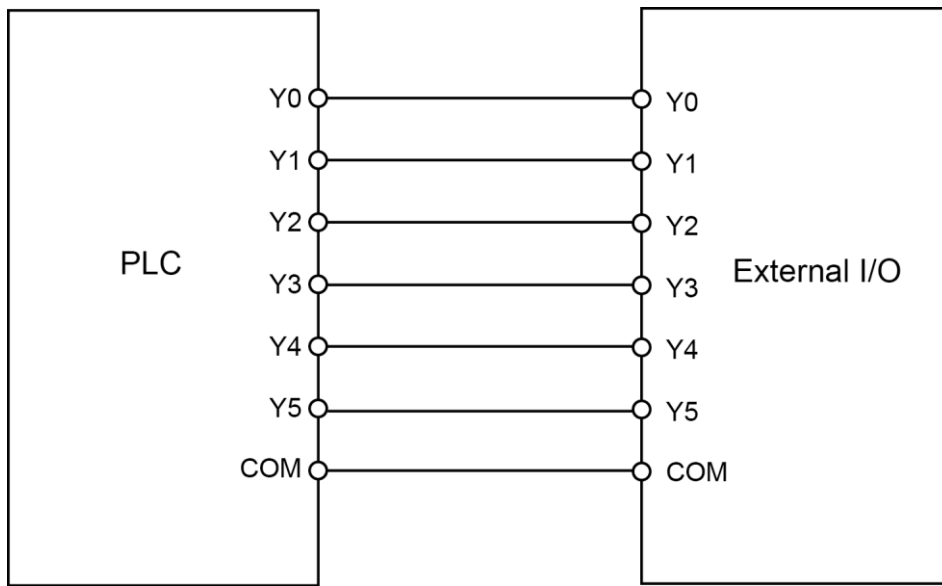

Figure 6.59 Connection between PLC and expansion board
Step 3 Connect the expansion board to the PLC. Supposing that we use PLC interfaces from Y0 to Y5, as shown in Figure 6.59.
4. Check **DIN 11 - DIN 15** according to **3** and Figure 6.59.